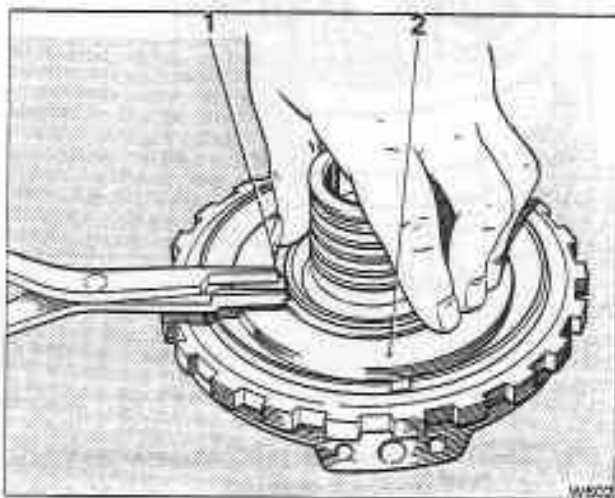

Fig. T20-4 Removing and fitting the intermediate clutch piston snap ring
2. Remove the snap ring (see fig. T20-4).